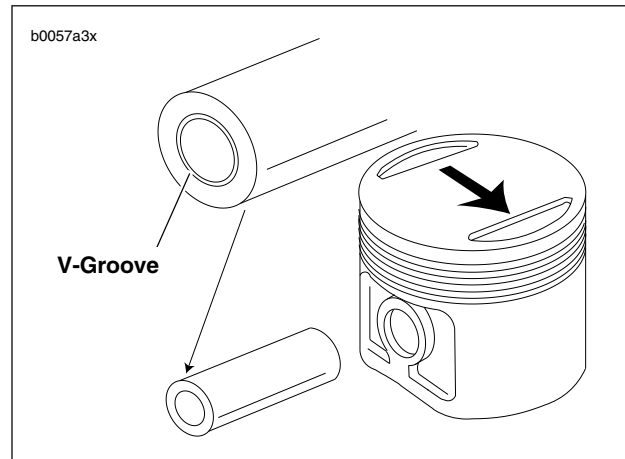

Figure 3-32. Piston Pin and Piston Identification
Since the piston pin is a loose fit in the piston, the pin will easily slide out. The pins have tapered ends to help seat the round retaining rings. See Figure 3-32. 1200cc piston pins are stamped with a V-groove at one end.
9. Mark each pin boss with either an “F” or an “R” to indicate front or rear cylinder, respectively. See Figure 3-32. The arrow at the top of 1200cc pistons must always point toward the front of the engine.